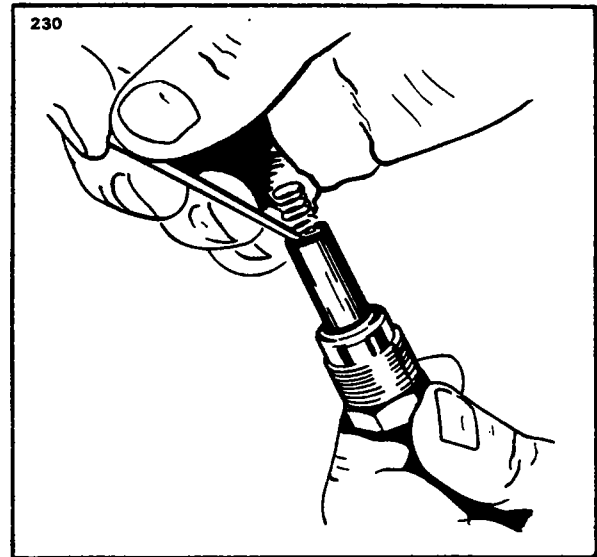

Figure 8A-18. Removing Spring From Lead Assembly
- (b) Push the tool thru insulating sleeve and spring retainer assembly as shown in Figure 8A-20. Screw the cable terminal into the tool.